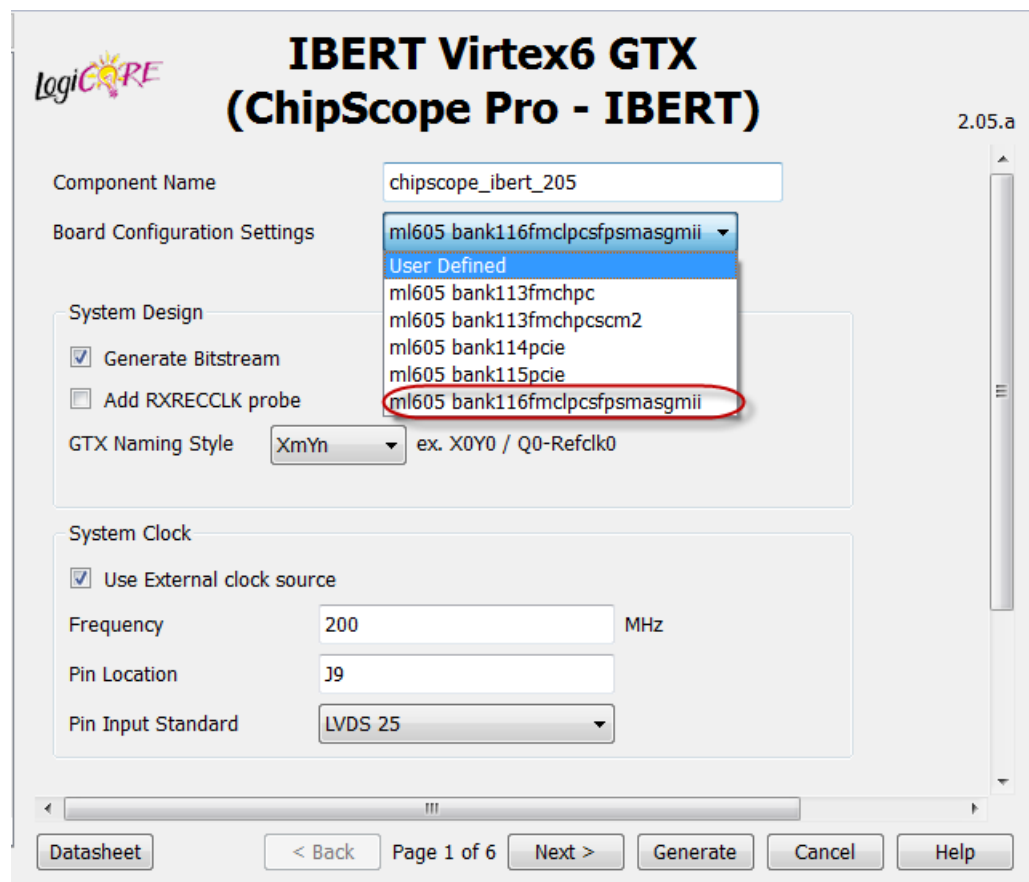

Figure 4: Board Configuration Settings Dialog Box
5. In the board configuration settings dialog box for the core, shown in Figure 4, locate the **Board Configuration Settings** drop-down menu and select **ml605 bank116fmclpcsfpsmasgmii**.
**Note:** If you don't see the drop-down items shown in Figure 4, you might have selected the wrong device in numbered step 2, above.